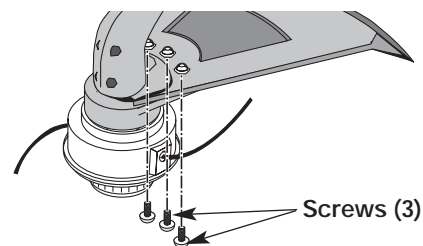

Figure 5
2. Place a hex lock nut into one of the three recessed holes on the top of the cutting attachment shield (Fig 5).